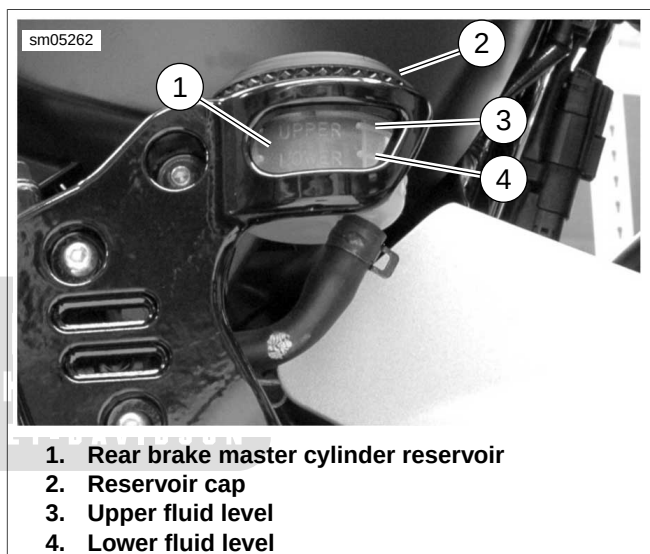

Figure 2-116. Rear Brake Master Cylinder Reservoir (XR Models)
7. See Figure 2-116. Remove reservoir cap (2).
8. Fill rear master cylinder reservoir (1) with **HARLEY-DAVIDSON D.O.T. 4 BRAKE FLUID** until the fluid level reaches the **UPPER** mark (3) on the reservoir.